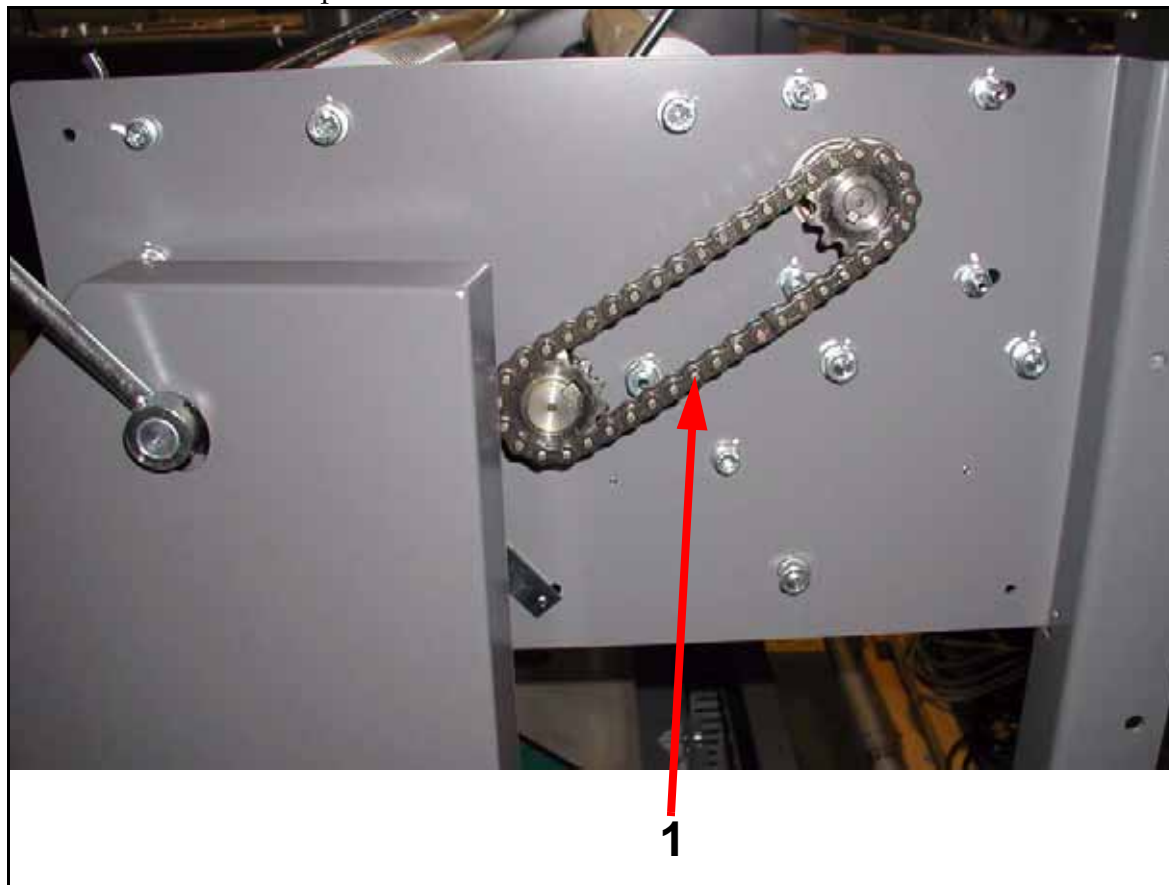

Figure 6-18. Film Feed Drive Chain
- 2 Use a small paint brush to apply a thin but thorough coat of oil to chain (1 in Figure 6-18).